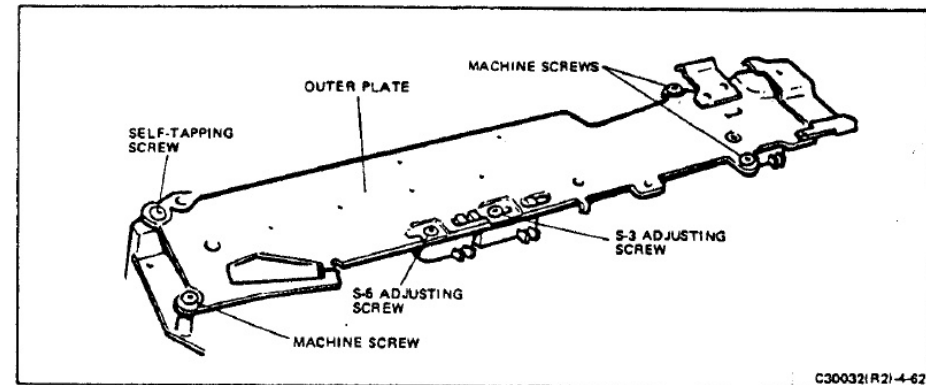

FIGURE 4-62 OUTER PLATE MOUNTING SCREWS
8. Refer to Figure 4-62. Remove the gear-train-assembly mounting screws. Note that three are machine screws but the fourth is a self-tapping screw. Note its location for reference.